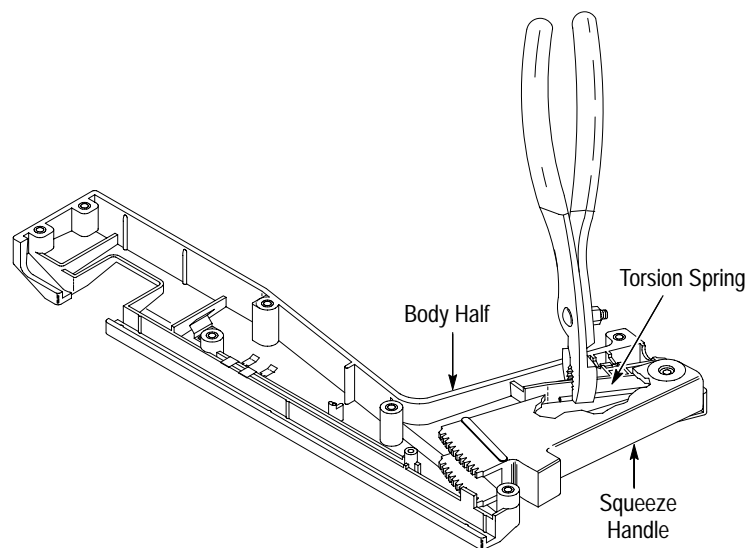

Figure 7: Removing the Handle
6. Lift the cable out of the probe handle and insert a pair of pliers in the handle as shown in Figure 7.
7. While maintaining a firm grip on the pliers, carefully lift the squeeze handle and gear out of the probe. See Figures 7 and 9.